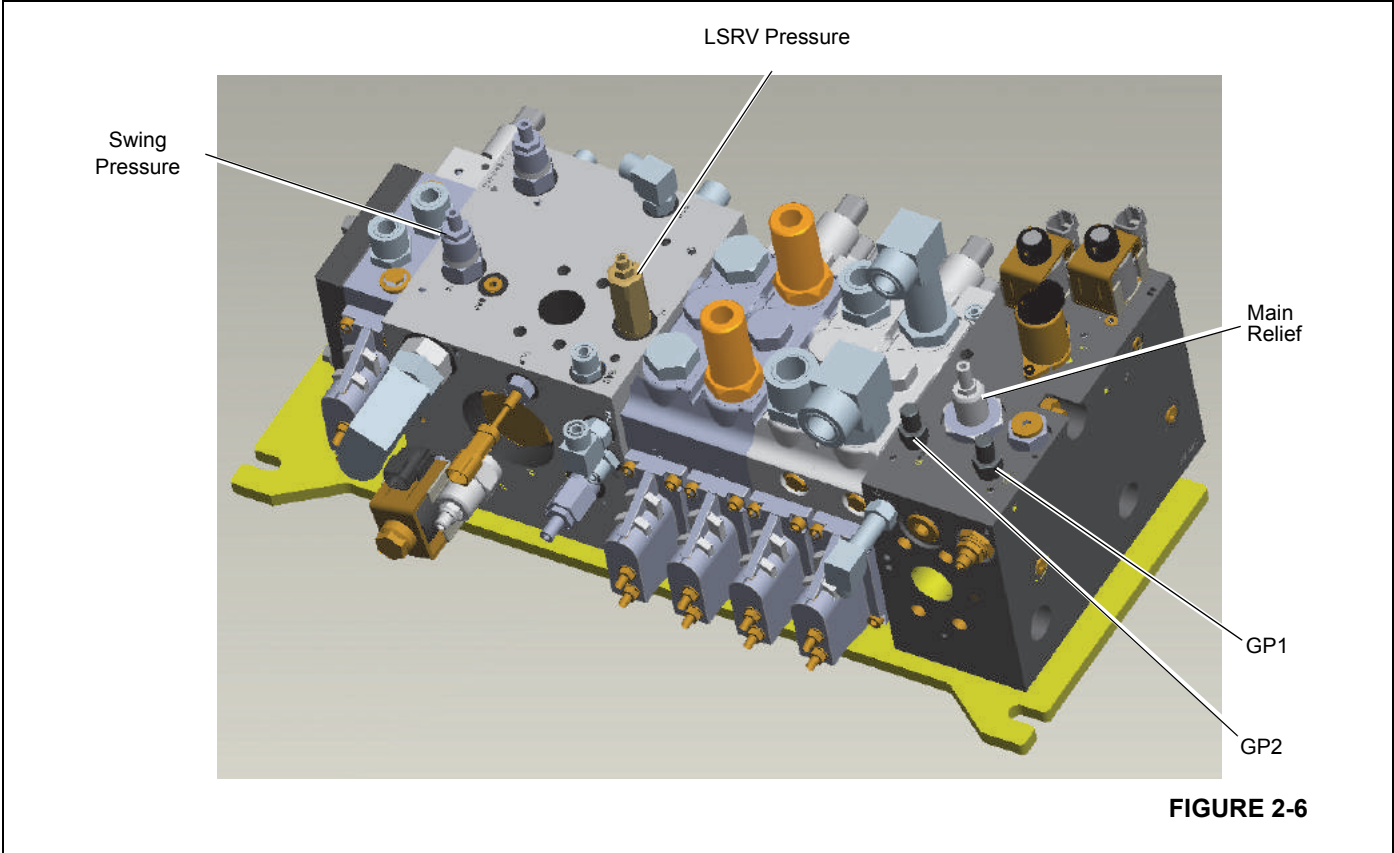

FIGURE 2-6
8. Install a gauge at the pump pressure gauge port (GP1) on the Directional Control Valve (DCV) (Figure 2-6).
To check the margin pressure, there are two pressures that will be set as the crane's swing circuit requires 28 bar (400 psi) of back pressure all the time. This means that when a gauge is installed in the load sense port (GP2 in Figure 2-6), the pressure will read the relief that is present in the swing circuit. Therefore the swing back pressure must be verified first,
1. Install a gauge at the pump pressure gauge port (GP2) on the DCV (Figure 2-6).
1. Install a gauge at the pump pressure gauge port (GP1) on the DCV (Figure 2-6).
In order to set the maximum pump pressure, the load sense relief valve (LSRV) setting must be raised to a value higher than the desired setting of the maximum pump pressure. To do this, raise the LSRV setting (Figure 2-6) by loosening the locknut (1/2 in. hex) and turning the adjustment hex (4 mm) clockwise until bottomed out. This should result in a setting of approximately 345 bar (5000 psi).
5. Install a 414 bar (6000 psi) minimum gauge in the pump gauge port GP1 (Figure 2-6).
3. Increase the pressure compensator (PC) setting until 345 bar (5000 psi) is reached on the gauge. There should be an audible hiss at the main relief and the return line back to the hydraulic tank should feel as if there is a large oil flow to tank. This means that the main relief setting has been reached.
4. If the 345 bar (5000 psi) setting cannot be reached on the gauge, the main relief valve setting must be increased (reference Figure 2-6). This can be adjusted by loosening the 3/4 in. locknut and using a 3/16 in. allen wrench to adjust the setting. Turning clockwise increases the setting and each turn gains 91 bar (1315 psi). Be sure to retighten the 3/4 in. locknut to 8 Nm (6 lb-ft) when setting is correct.
5. Once the desired main relief setting is reached, the pump pressure compensator (PC) setting must be returned to the value from Table 2-2. See "D. Setting Maximum Pump Pressure."
1. Install 414 bar (6000 psi) gauge at the pump pressure gauge port (GP1) on the DCV (Figure 2-6).
1. Install a 345 bar (5000 psi) gauge at the pump pressure gauge port (GP2) on the DCV (Figure 2-6).
3. If the LSRV pressure is not correct, Adjust the LSRV adjusting screw as shown in (Figure 2-6).